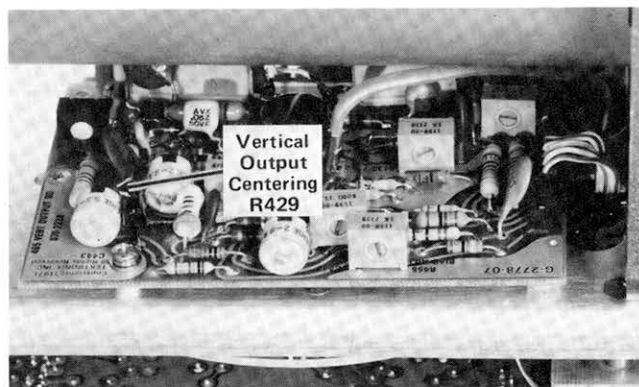

Fig. 5-9. Location of Vertical Output Centering adjustment.
c. ADJUST—Vertical Output Centering adjustment, R429, (see Fig. 5-9) to position the trace to the center graticule line.